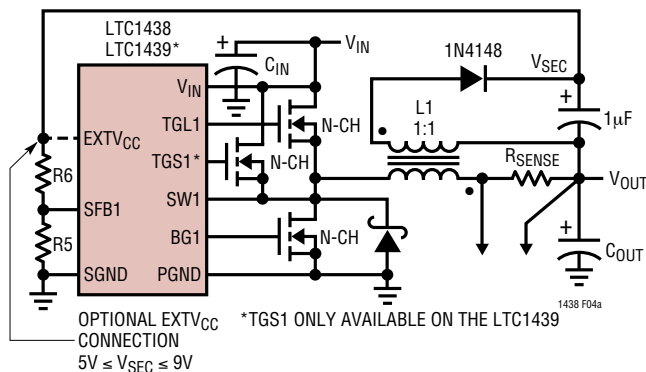
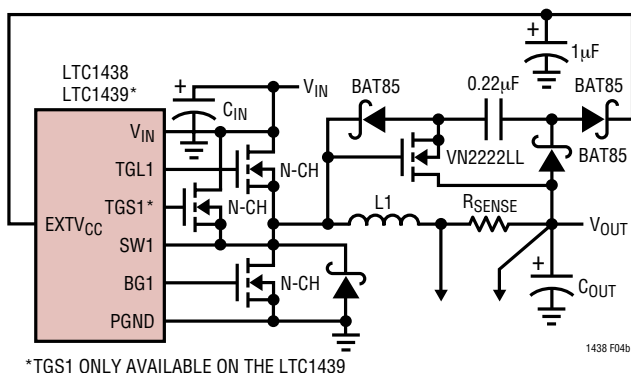

Figure 4a. Secondary Output Loop and EXTVCC Connection
Figure 4b. Capacitive Charge Pump for EXTVCC
- EXTVCC connected to an output-derived boost network. For 3.3V and other low voltage regulators, efficiency gains can still be realized by connecting EXTVCC to an output-derived voltage which has been boosted to greater than 4.8V. This can be done with either the inductive boost winding as shown in Figure 4a or the capacitive charge pump shown in Figure 4b. The charge pump has the advantage of simple magnetics.
The secondary output voltage is set by the turns ratio of the transformer in conjunction with a pair of external resistors returned to the SFB1 pin as shown in Figure 4a. The secondary regulated voltage  $V_{SEC}$  in Figure 4a is given by: